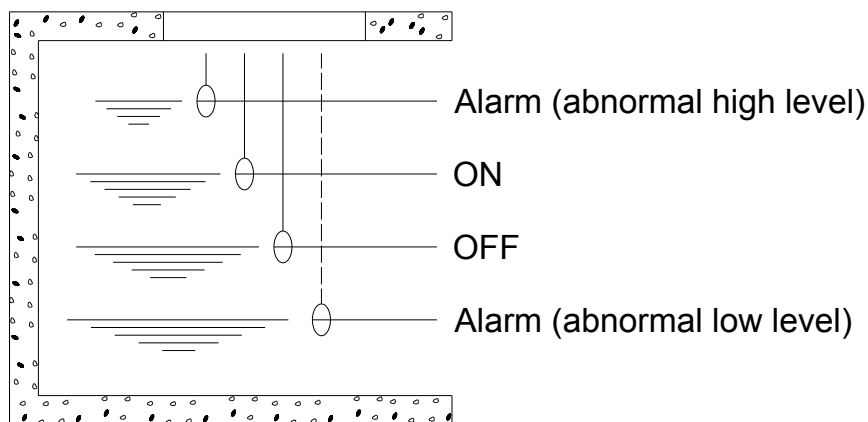

Fig. 16 Single Unit Operation
4.4 Water Level Switch Cable Connection (Fig. 16 and 17)
Figs. 16 and 17 illustrate typical float switch applications for water level control.